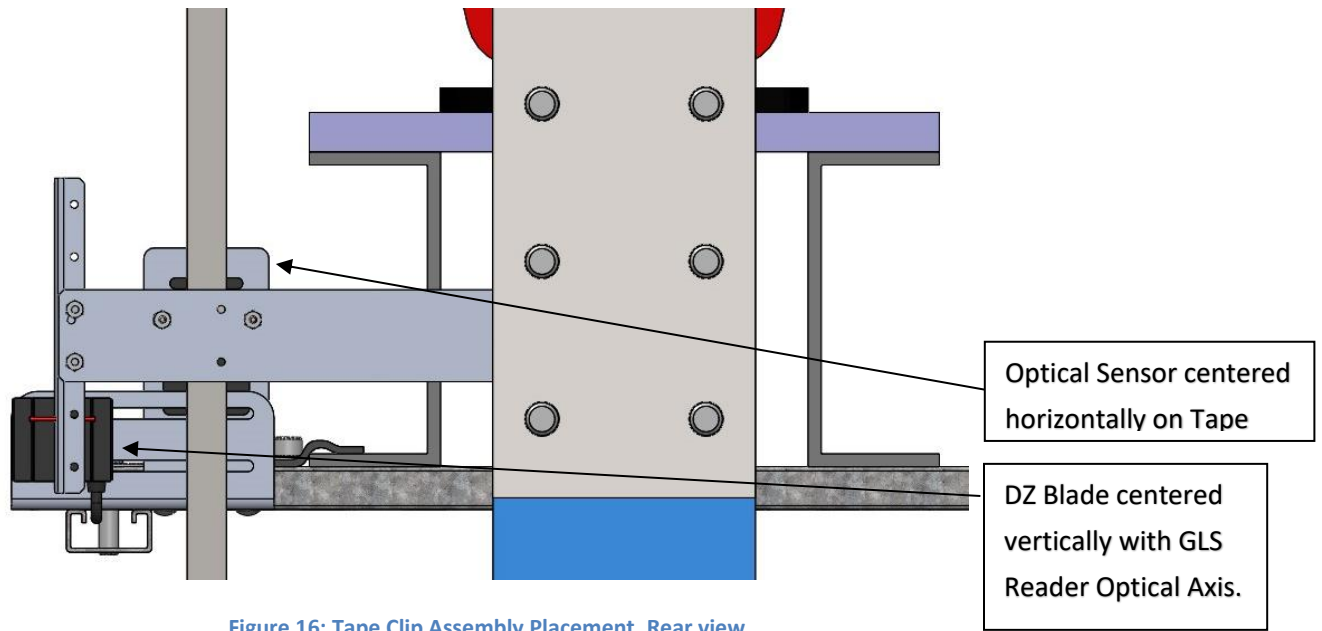

Figure 16: Tape Clip Assembly Placement. Rear view.
- Place the Tape Clip assembly onto the Guide Rail so that the DZ blade is centered vertically with the GLS reader Optical Axis as shown in figure 16.